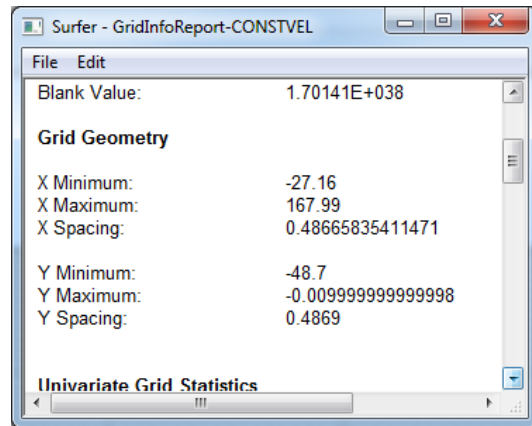

Fig. 9 : Surfer *Options|Grid Info...* for CONSTVEL.GRD
- select *Options|Grid Info...* in Surfer, to obtain Fig. 9